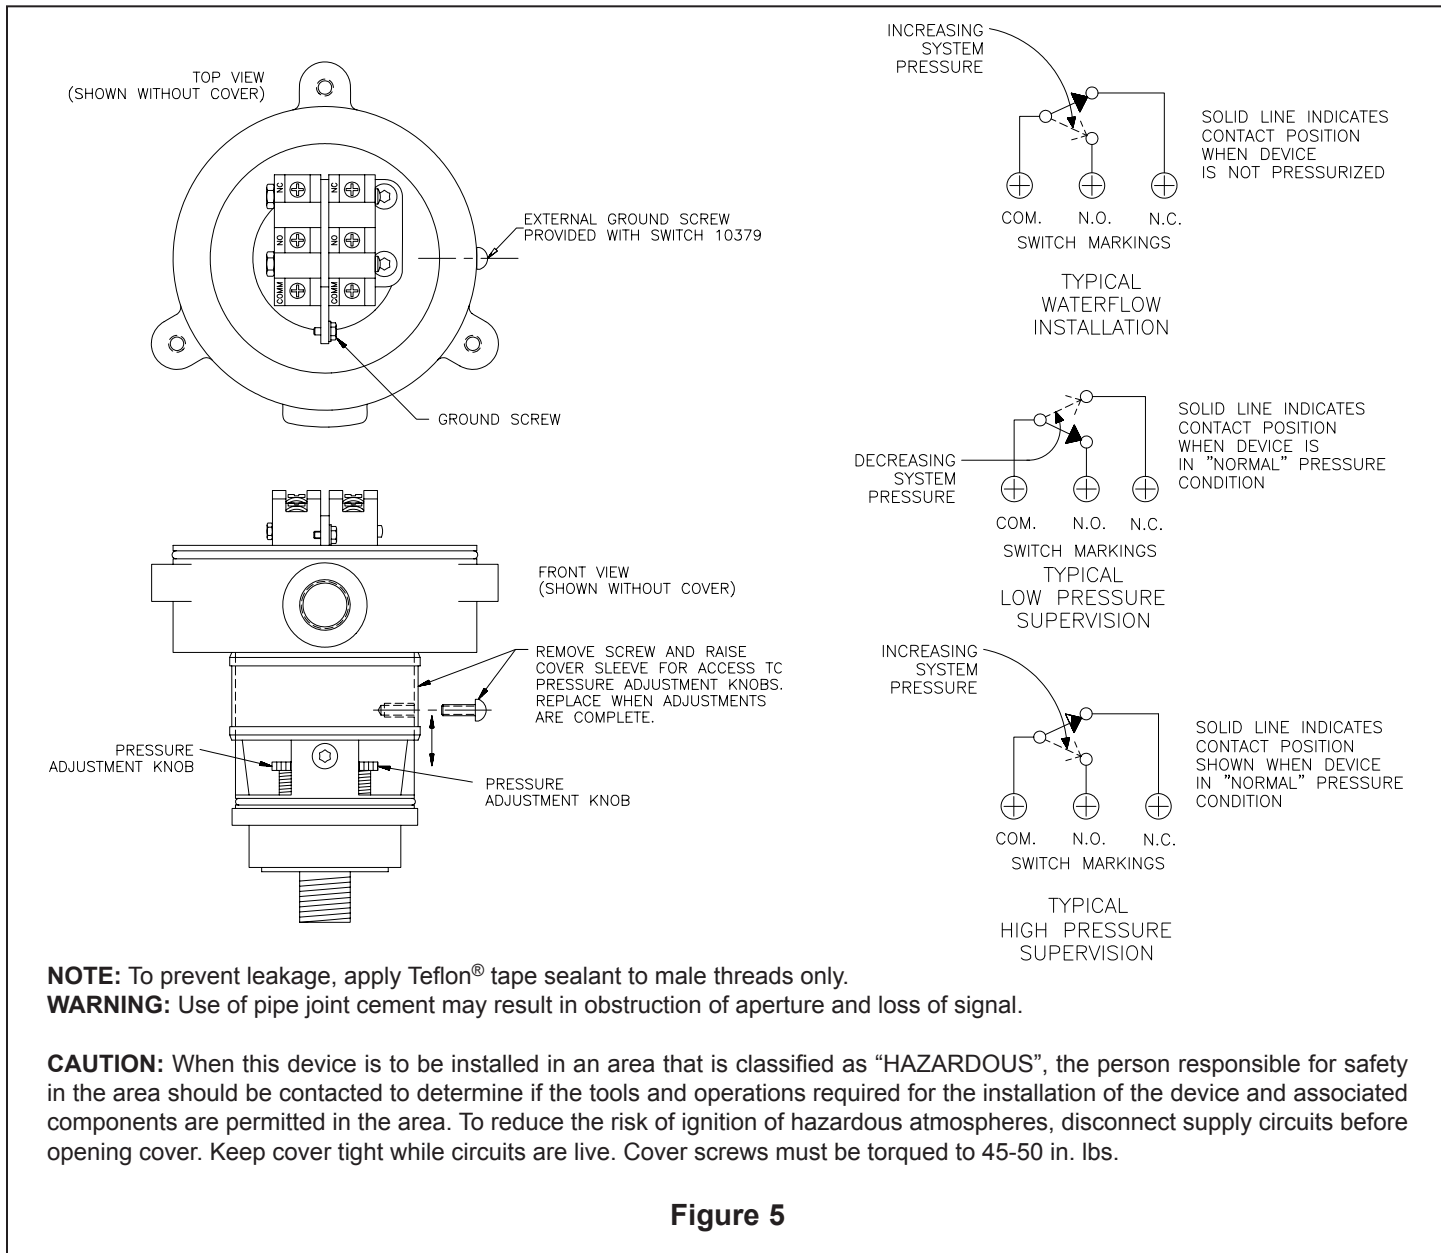

Figure 5
(Refer to Figure 5.)
2. Use the hex key wrench supplied with the switch to remove the socket head screw above the sliding access cover sleeve (see Figure 5).